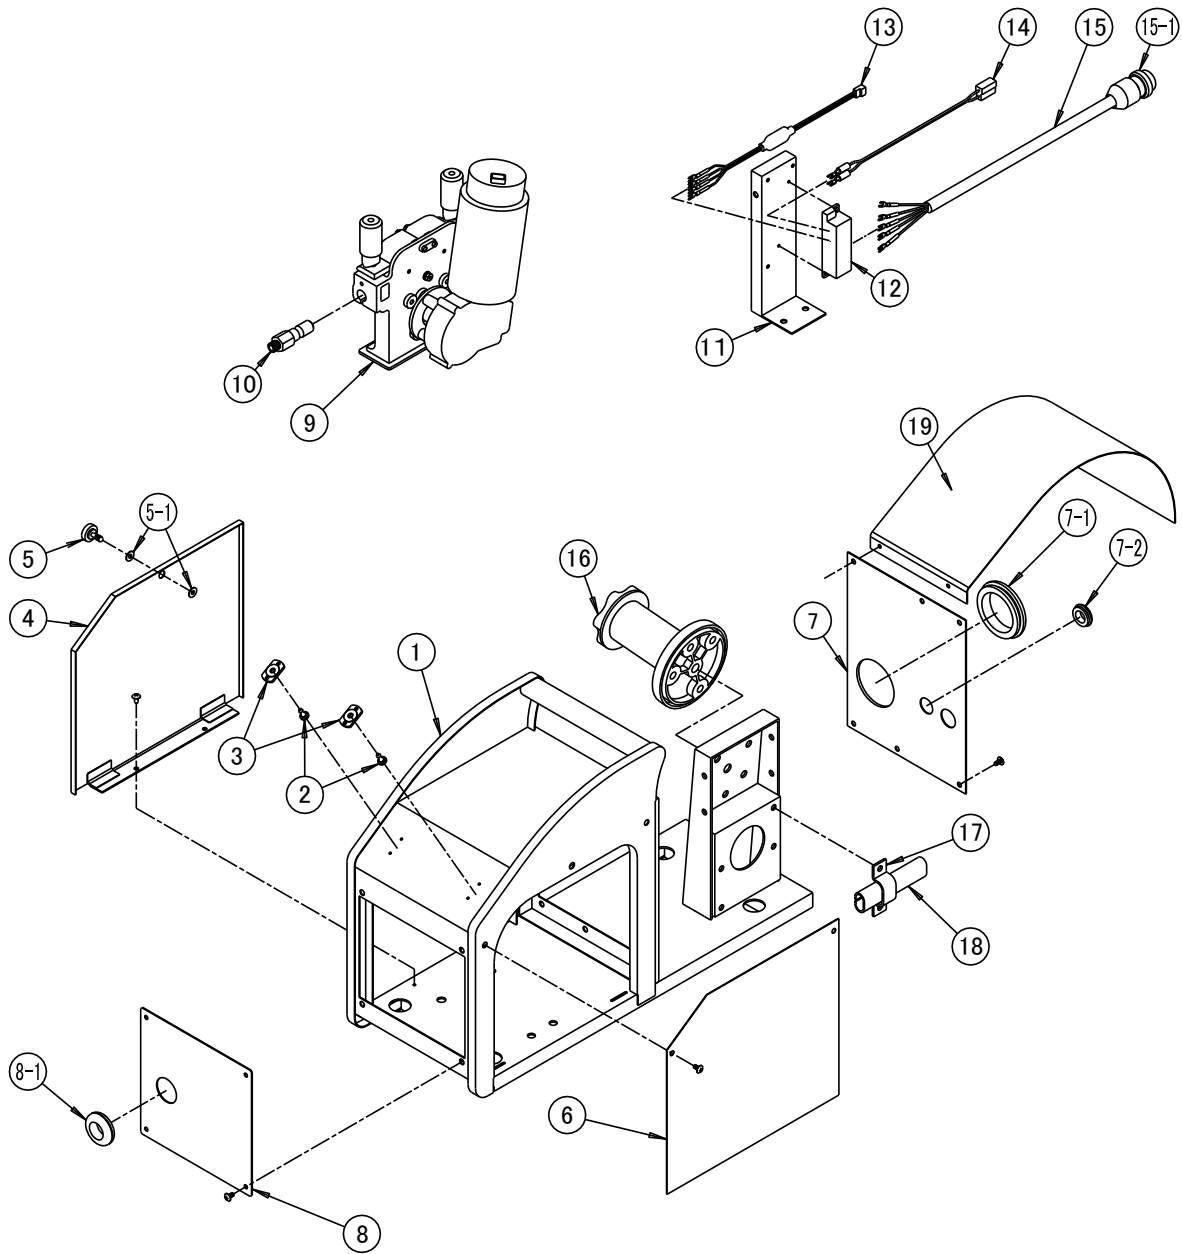

Fig.1 Main body and wiring disassembly
9.1 Main body and Wiring (Fig.1)